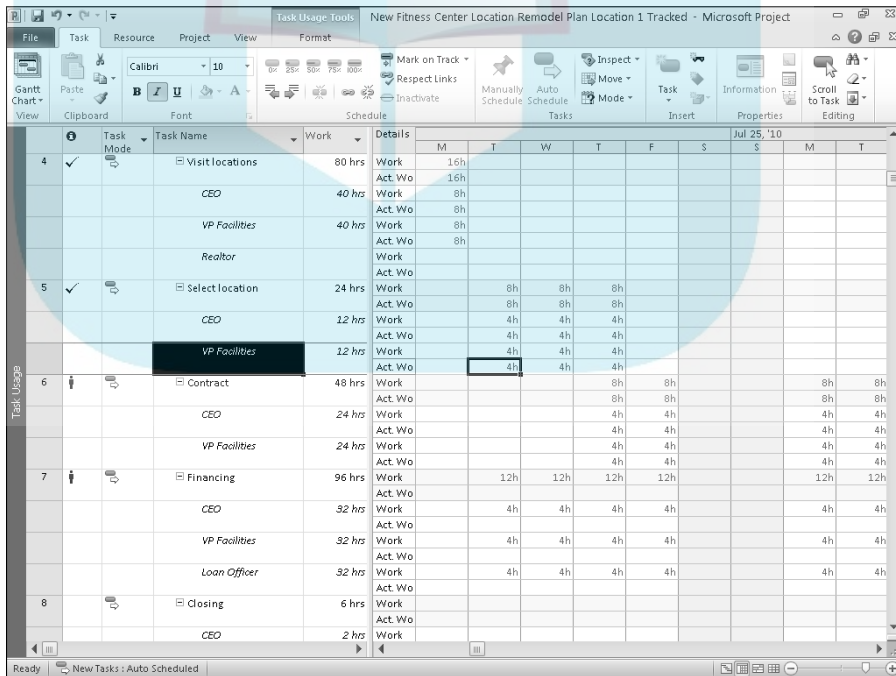

Figure 13-6:
- *If you want to enter hours on the task day by day:* Right-click the chart pane, and then choose Actual Work to display the Act. Work row. Figure 13-6 shows this row displayed in the Task Usage view. Click the Act. Work cell for a day that the resource worked and enter a number. Repeat this for each day that the resource worked on that task.